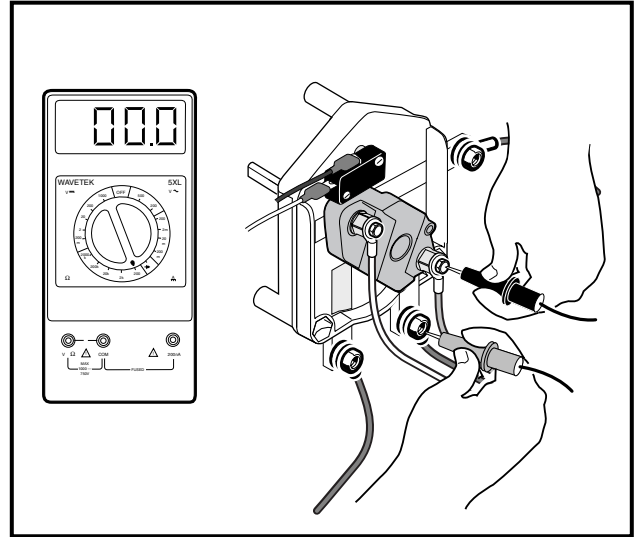

Figure 11-14 Forward/Reverse Switch Test – Step 2.4
- 2.4. With the Forward/Reverse handle in the REVERSE position, place the red (+) probe on the reverse terminal lug of the Forward/Reverse switch (with green wire attached), and place the black (-) probe on the movable contact (with the purple wire attached) on forward and reverse rotor (Figure 11-14, Page 11-13). Reading should be continuity.